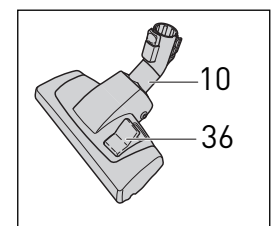

Figure 18
Kombi Nozzle (standard on D1, optional for D4) - Figure 18
The Kombi nozzle (10) is adjustable for carpet or hard floors. To set for carpet, push the small end of the toggle button (36) downward until it clicks into place. The hard floor dusting brush will raise up allowing the head to move over the carpet. To set for hard floors, push the large end of the toggle button (36) downward until it clicks into place. The brush will lower to gently sweep your floors. **The toggle button in Figure 18 is set in the position for hard floors.** The brush should be cleaned regularly. Remove the Kombi nozzle from the telescopic tube to clean. Fibers and hair can be pulled out of the bristles manually, or vacuum the bristles with the telescopic tube.